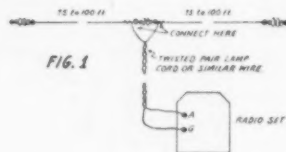

FIG. 1
**Answer**—An antenna consisting of two wires of equal length, each 75 to 100 feet, the far ends of which are supported by insulators and the near ends of which are brought to opposite sides of an insulator and connected at the center insulator to the two conductors of a "twisted pair," such as lamp cord, can be used to obtain quite satisfactory reception. The other ends of the conductors of the "twisted pair" will be connected to the aerial and ground posts of the receiver as indicated in the accompanying sketch, Fig. 1.